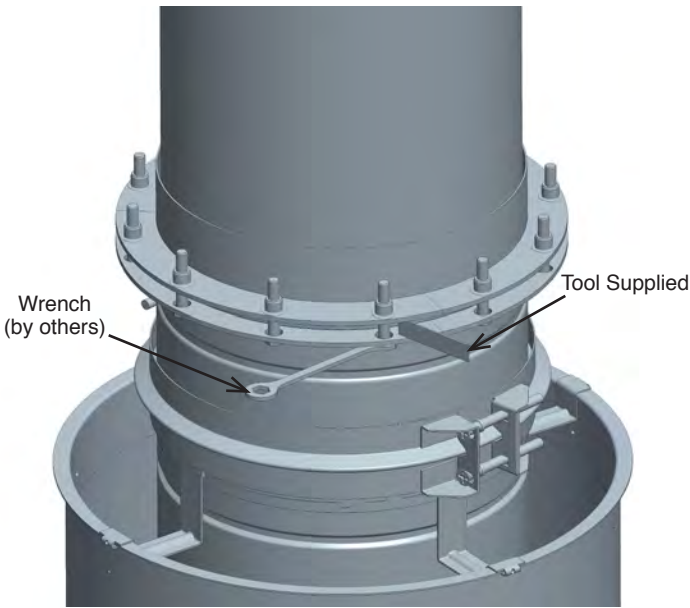

Figure 18 - Step 5 of the Adjustable Length
There is also supplied tool with this assembly. This tool works as a spacer when tightening the bolts of the containing rings on the graphite gasket. See Figure 18.
5. Tighten all the bolts of the containing ring. For each bolt, use the supplied tool as a guide between the two containing rings. See Figure 18.